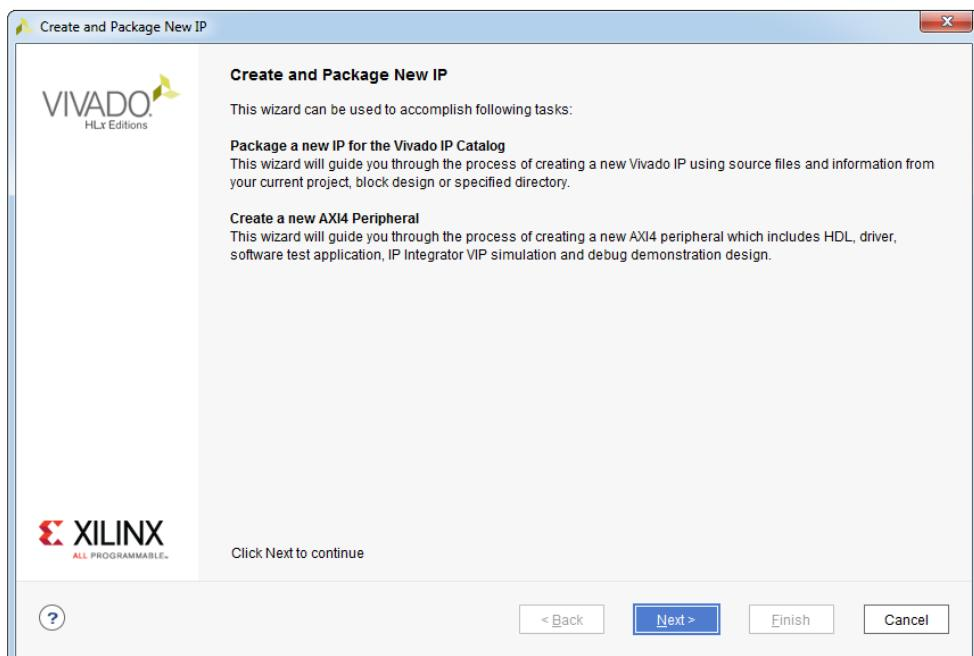

Figure 12.68: Create and Package New IP dialog box
9. In the **Create Peripheral, Package IP or Package a Block Design** dialog box, choose to **Create a new AXI4 peripheral** and click **Next**, see Figure 12.68.